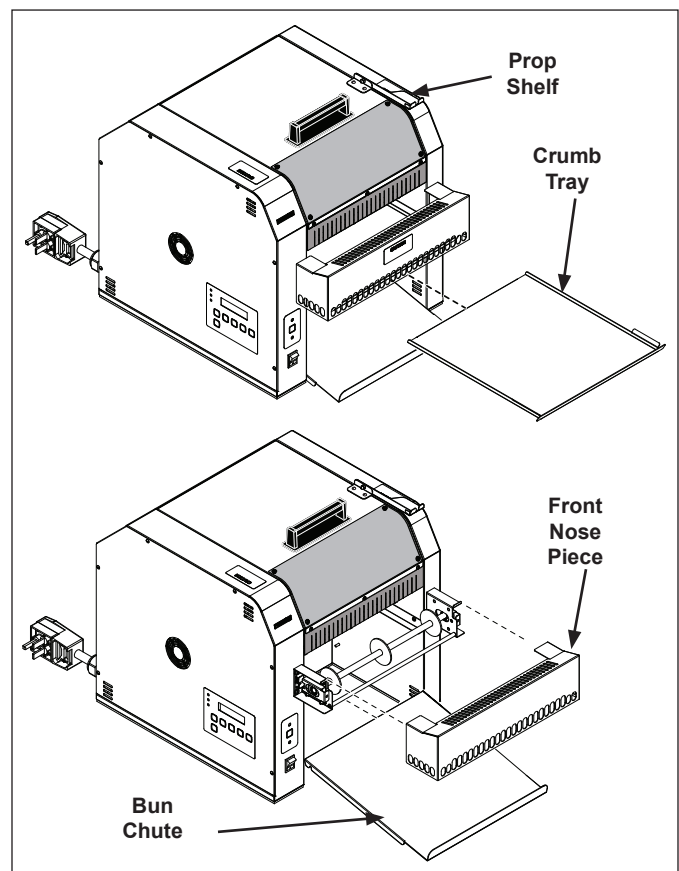

Figure 3. Toaster Components
3. Wearing Heat Resistant Gloves, remove the following items from the unit (Figure 3):
5. Open the Top Cover and use the Prop Shelf (Figure 3) to secure the Top Cover in the open position.